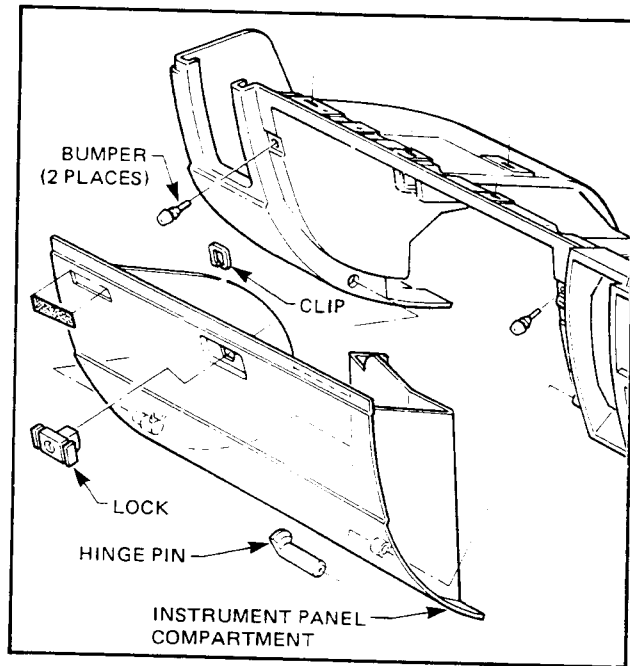

Figure 2A-12
7. Remove the nuts securing the blower motor housing to the studs attached to the left hand side of the plenum chamber illustrated in Fig. 2A-13, removing the housing assembly.